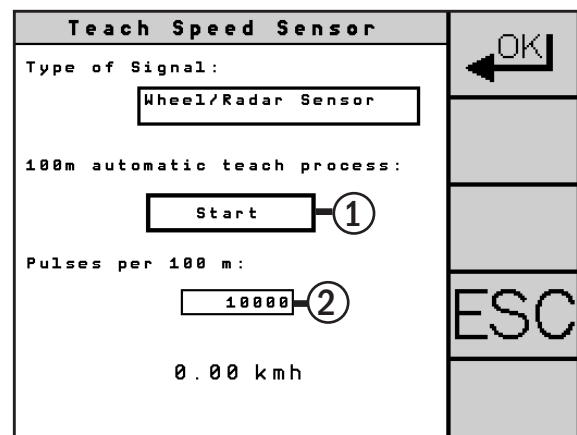

Fig. 56: Speed calibration
- to automatically record the speed pulses (see Fig. 56 – 1) or
- to set the speed pulses manually (see Fig. 56 – 2).